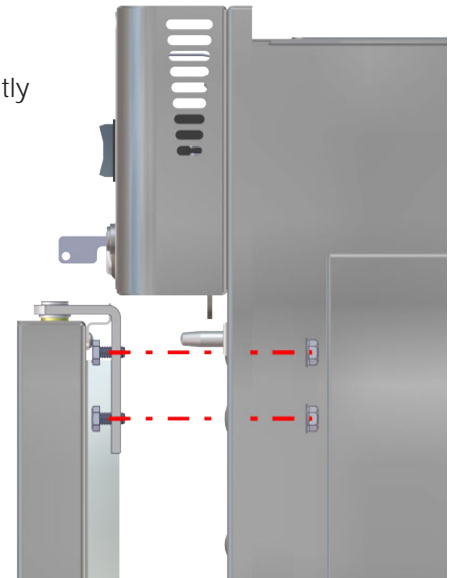

Fig. 58: Remove Steel Door
1. Loosen the nuts on the bolts that hold the top door hinge onto the unit. Hold the door as you remove the nuts so the door does not fall on you. Once the nuts are removed, the door can be leaned away from the unit and lifted off the bottom hinge (Fig. 58).